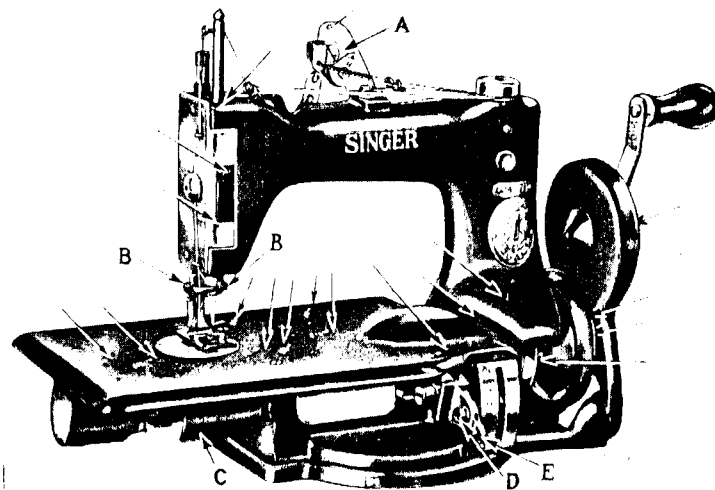

FIG. 2. FRONT VIEW OF MACHINE 24-71, SHOWING OILING POINTS AND ADJUSTMENTS
regularly. Apply oil to all oil holes and other places indicated by arrows in Figs. 2 and 3.
Turn the hand crank until the needle bar is at its highest point. Loosen the two set screws (BB, Fig. 2) in the needle clamp and set the needles up into the clamp as far as they will go, with the eyes of the needles in line with the arm of the machine. The right or inside needle must have its long groove to the left, and the left or outside needle must have its long groove to the right. Then tighten the two set screws (BB).
To change the length of stitch, loosen locking screw (D, Fig. 2) and move the stitch regulator (E, Fig. 2) until the pointer in the slot of the stitch index plate is opposite the desired number of stitches to the inch. Tighten screw (D), then set the pointer (A, Fig. 2) of the thread measuring device at the corresponding number.
If the thread becomes caught on the loopers, remove the looper cover (C, Fig. 2) underneath the cloth plate and clear away the thread, being careful not to scratch the loopers. Then replace the looper cover.